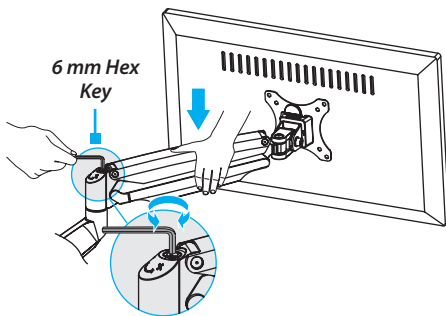

Figure 13
1. To increase or decrease the tension in the **Spring Arm (1)**, hold down the **Spring Arm** so that it is straight, and use the **6 mm Hex Key (14)** to turn the screw in the joint of the **Spring Arm** counterclockwise or clockwise. (*Figure 13*)